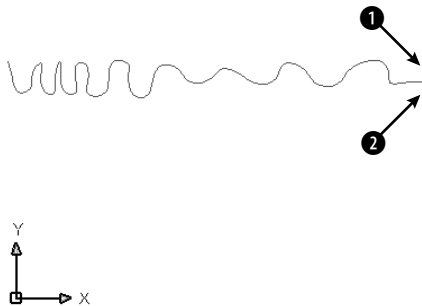

Figure 23-32: A spline.
2. Save it as **ab23-06.dwg** in your AutoCAD Bible folder. You see a spline, as shown in Figure 23-32. In this exercise, you use the spline to draw some drapes.
3. Mirror the spline. For the mirror line, turn on ORTHO and use ① and ② as shown in Figure 23-32. Don't delete the original spline.